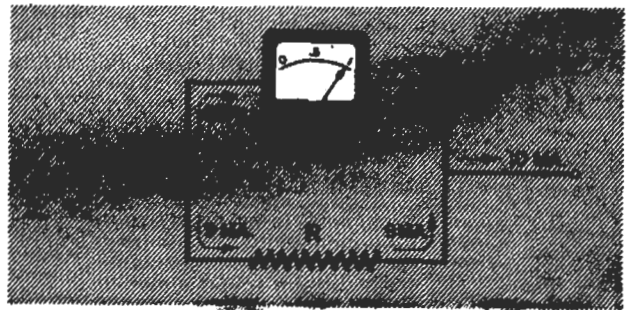

FIG. 5. The current flow divides between the meter and shunt.
**Shunts.** Suppose we have a 1-ma. meter and want to measure 10 ma. We can do so by putting a resistor across the terminals of the meter of such a value that 9/10 of the current coming into the resistor-meter combination will flow through the resistor and only 1/10 will flow through the meter. In other words, we use the resistor to "bypass" 9/10 of the current. Figure 5 shows how this is done. When we read the meter, we simply remember that there is 10 times as much current flowing as the meter shows—so we multiply the meter reading by 10 to get the actual current flow. If our meter reads 0.5 ma., we know the real current is 5 ma. ( $0.5 \times 10 = 5$ ); if it reads 1 ma., the actual current is 10 ma. ( $1 \times 10 = 10$ ).